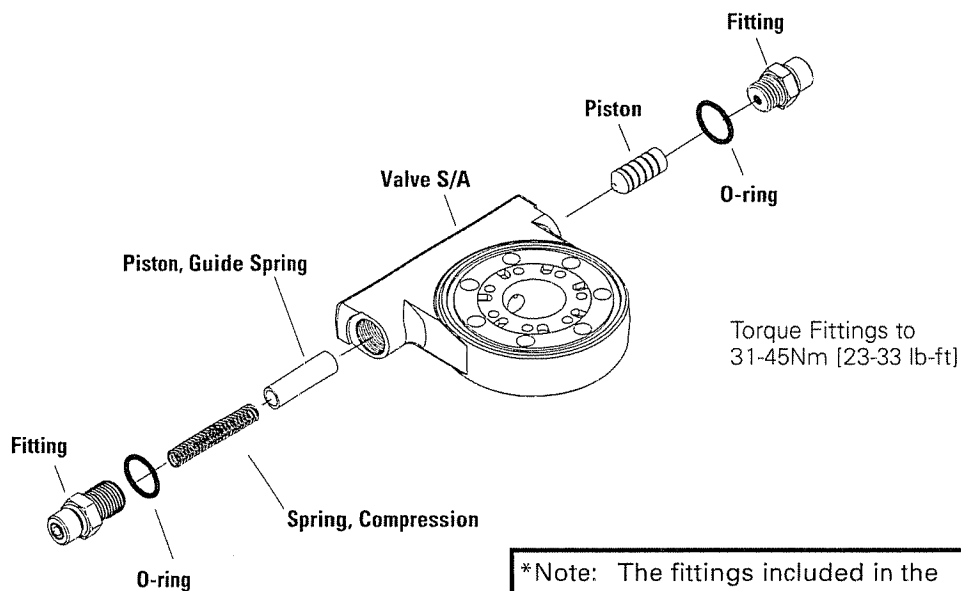

Figure 12
3. Reassemble valve parts with new o-rings on plugs (See figure 12).